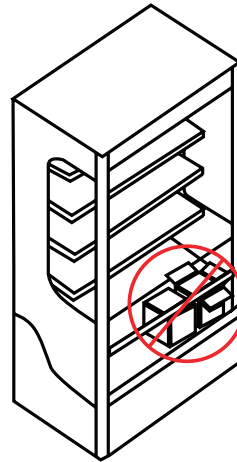

Fig. 6
- Do not block the return vents that ensure a proper refrigerated air circulation. (Fig. 6)